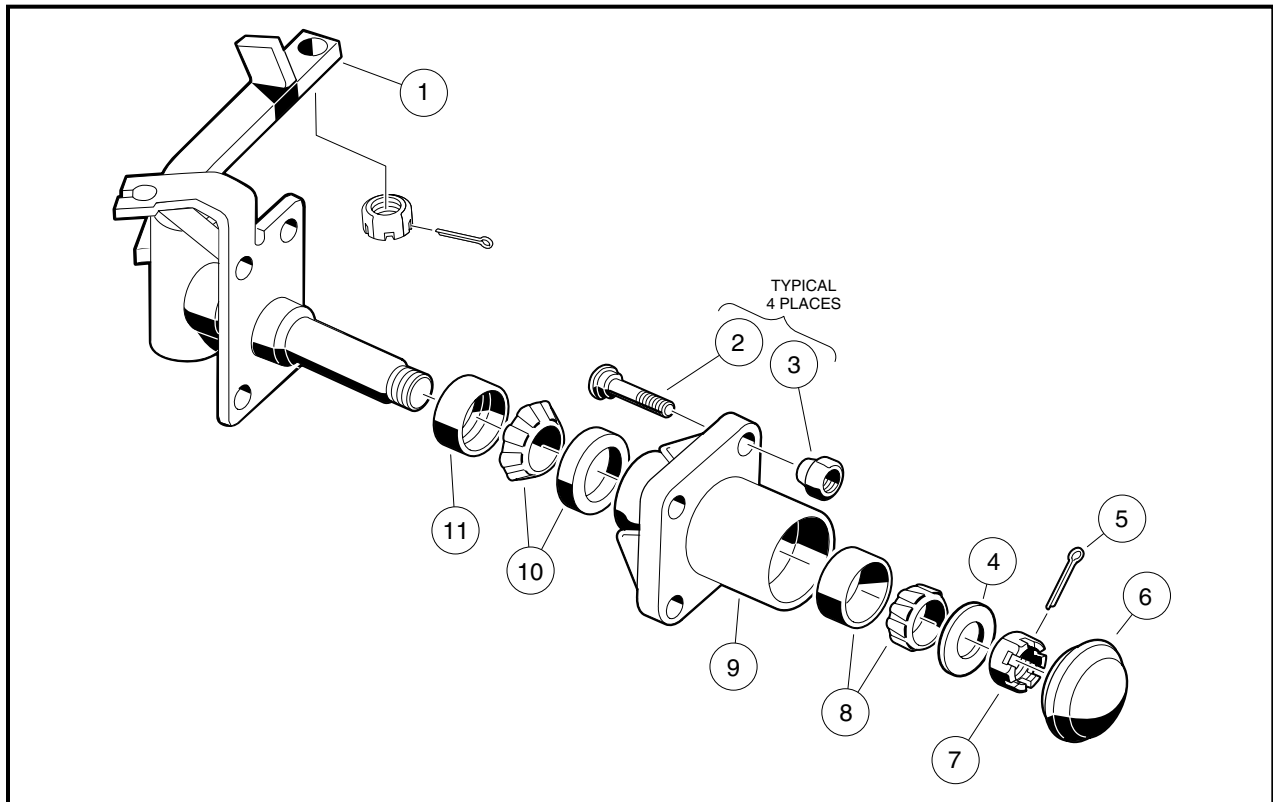

Figure 6-34 Front Spindle Assembly
6. Remove dust cap (6) on hub and bearing assembly (**Figure 6-34, Page 6-20**).
7. Remove cotter pin (5) and hex nut (7) from spindle shaft (**Figure 6-34, Page 6-20**).